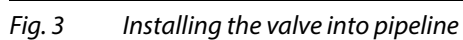
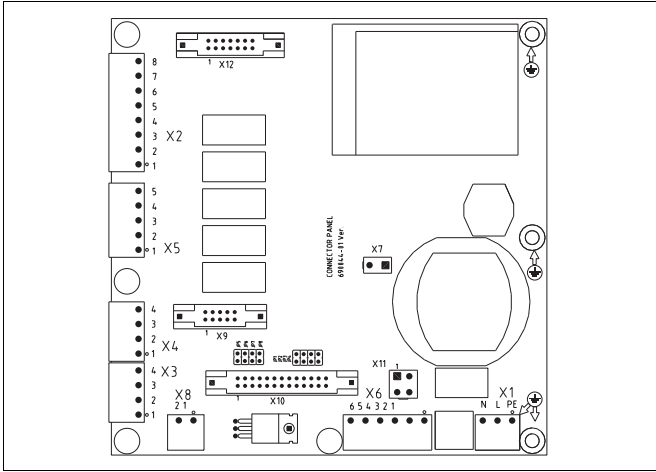

Fig. 4 Connection diagram
Fig. 5 Connector card
The internal connections of the control unit between the step motor controller, display card and connector card are made using cables with connectors. All cables must be connected to ensure the proper operation of the controller. Connector card, Fig. 4, connectors X1...X12, and step motor controller, Fig. 5, connectors X1...X6, are connected as follows:
- ☐ Check that LED 11 is lit (HW Enable), see Fig. 5.
- ☐ Connect the serial link cable to controller (connector X4) Fig. 5.